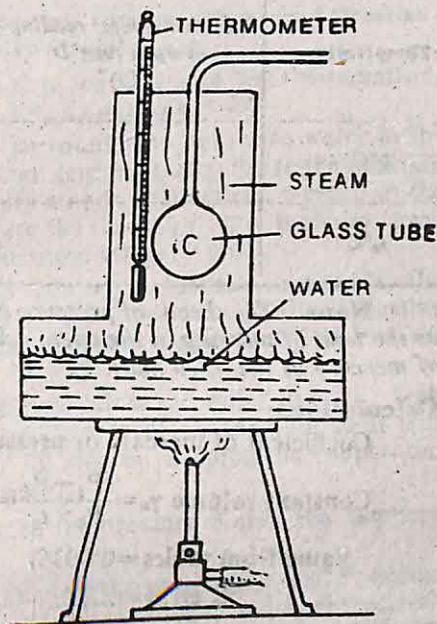

Fig. 29.3
6. Remove ice and the funnel surrounding the bulb C. Place the bulb in the steam bath as shown in Fig. 29.3. When the bulb remains surrounded with steam for about 10 minutes, the air in the bulb will attain the temperature of steam. See that the thermometer records a constant temperature. Raise the tube D so that mercury in the capillary tube again stands at the fixed mark F. Wait for a few minutes more. If the air in the bulb has attained the temperature of steam, the mercury level will remain stationary at F. Note the scale reading against the level of mercury in the tube D, with the help of a set square as explained in step 5 of the procedure. *Bring the tube D to its lowest position and then remove the burner.*